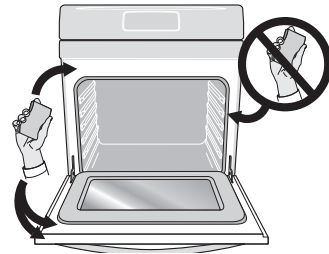

Figure 11: Oven door area to clean and not clean (gasket).
- Clean any soil from the oven frame, the door liner outside the oven door gasket, and the small area at the front center of the oven bottom (See Figure 11). These areas heat sufficiently to burn soil on. Clean using soap and water prior to starting Self Clean.
- Do not clean the oven door gasket (See Figure 11). The woven material of the oven door gasket is essential for a good seal. Care should be taken not to rub, damage, or remove the gasket. Do not use any cleaning materials on the oven door gasket. Doing so could cause damage to the door gasket.